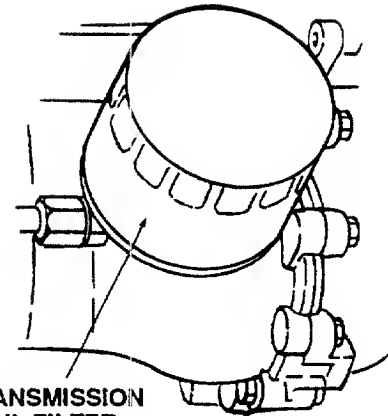

Figure 22
3. Clean around the base of the transmission oil filter and remove filter by turning it counterclockwise. (Refer to Figure 22.)